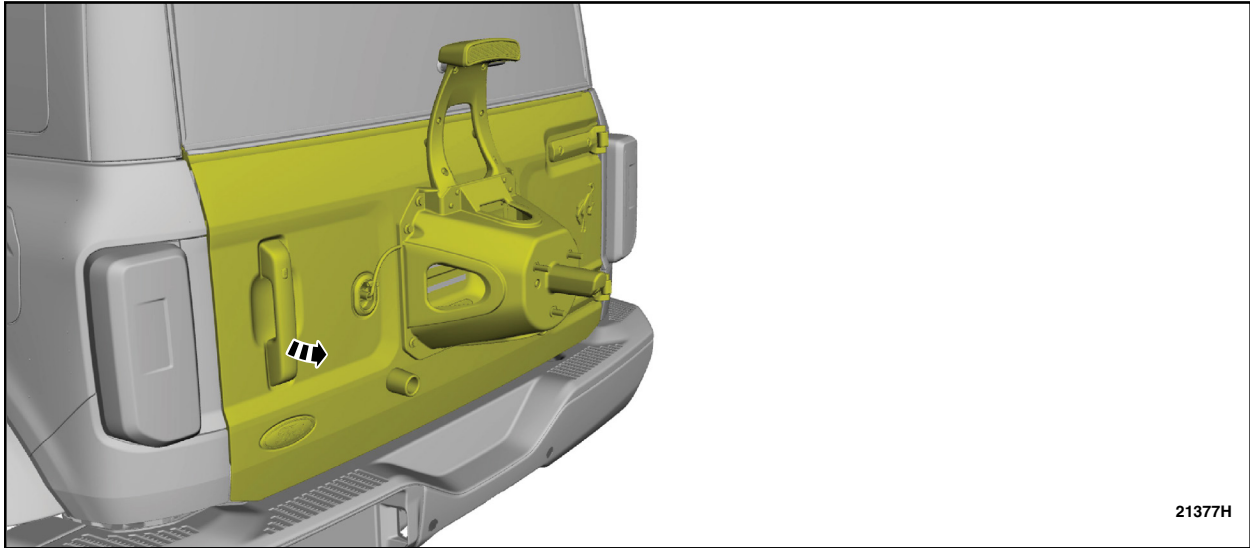

FIGURE 14
1. Open the tailgate. See Figure 14.